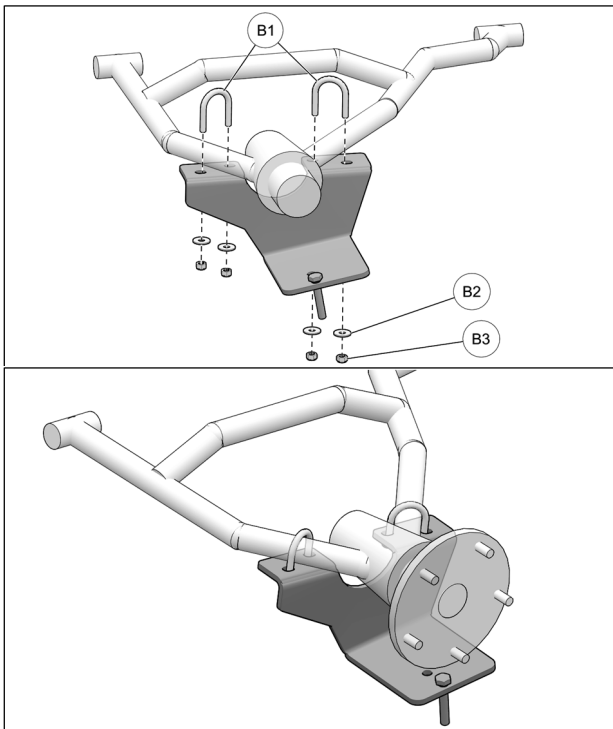

Fig. 6
6. Straddle U-bolts (B1) over suspension arm members and insert threaded ends through anchor plate holes. Secure the anchor plate using washers (B2) and nuts (B3). Tighten nuts to 25 N•m [18 lb•ft] of torque. See Fig. 6